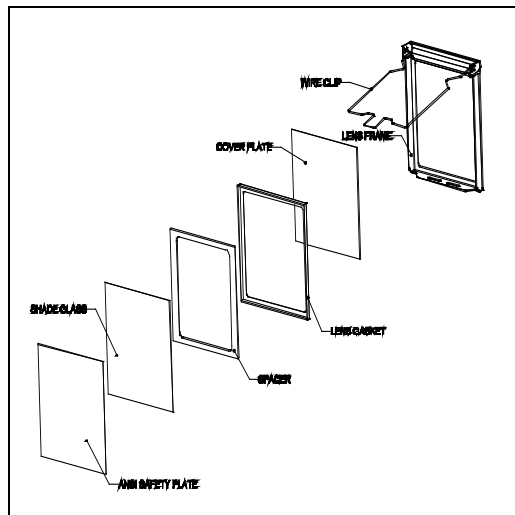

Fig. 19d
- Gently pull the wire clip down until it disengages from the two slots in the lens frame and pull up (Fig. 19d).
- Assemble the lens parts (Fig. 19d). Be sure to stack the parts in the indicated sequence, and (where noted) have them face the direction shown. Use only welding filters that are compliant with ANSI Z87.1-2003, and which have the appropriate shade rating for the application, as per ANSI Z49.1-2005.